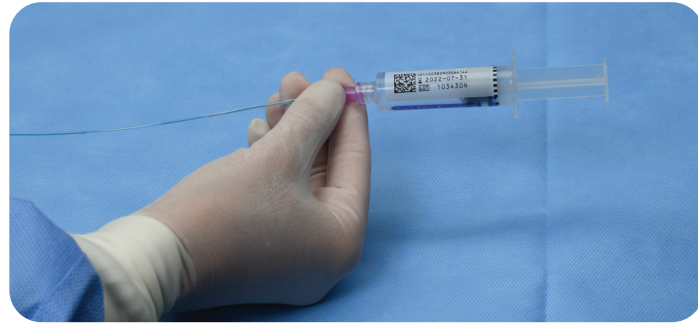

Figure 10
1. Flush the guidewire lumen. (Figure 10)